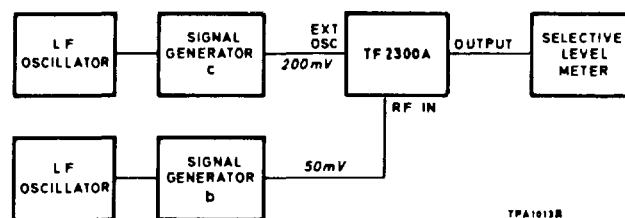

Fig. 4-5. F.M. distortion measurement
- (1) Set up the equipment as shown in Fig. 4-5. Adjust c to give a c. w. output of 200 mV at any convenient frequency F_{c1} . Adjust b to give a c. w. output of 50 mV at frequency ($F_{c1} - 1.5$ MHz).